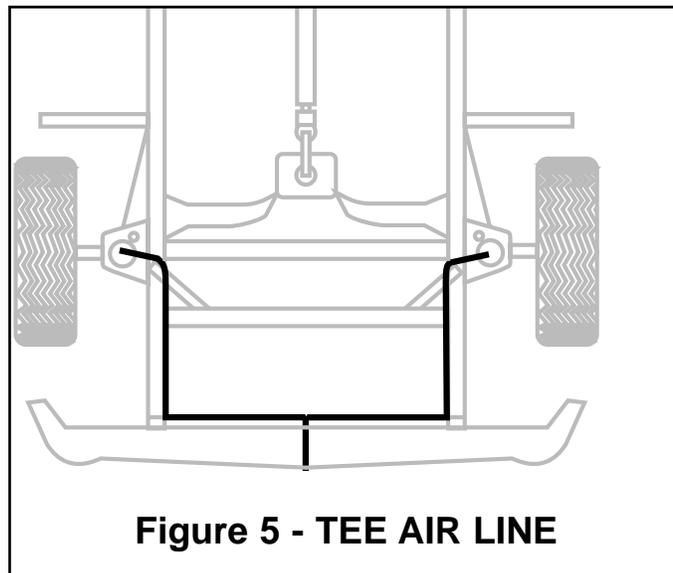

Figure 5 - TEE AIR LINE
- E. Route air line along cross member and upper spring seat to air cylinder (Figure 5).
- H. Push the remaining air line over the last fitting on tee and route along frame to desired inflation valve location (Figure 5). Attach with plastic straps.